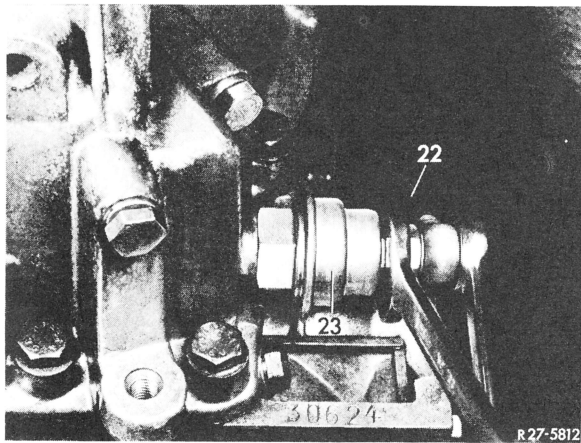

Fig. 3
22 Connect vacuum line (22) to vacuum box (23), **while counterholding on hexagon (SW 14) on vacuum box** (Fig. 3).